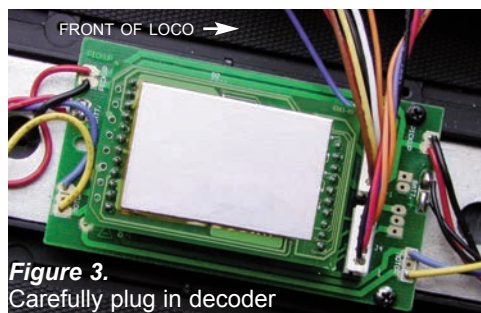

Figure 3. Carefully plug in decoder
3. Plug the DG583AR decoder into the socket making sure that 12-pin plug and the 10-pin plug on the decoder are installed into the correct sockets. (**Figure 3**) The ten pin connector is used only for support of the decoder board, it does not have any electrical connections. Seat the decoder firmly in the socket.